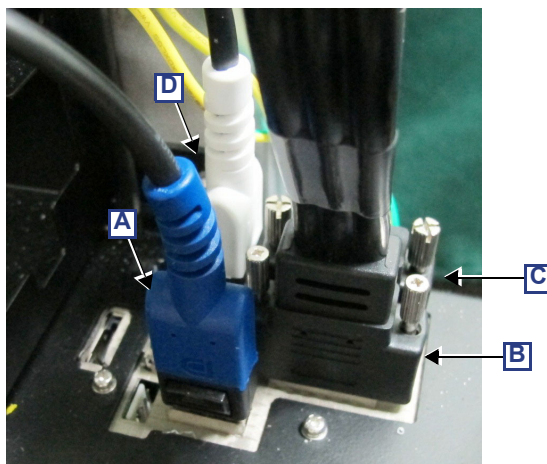

Figure 8-179 Internal Distribution Panel Cables
6.) Disconnect the cables from the Internal Distribution Panel (see Figure 8-179) as follows: